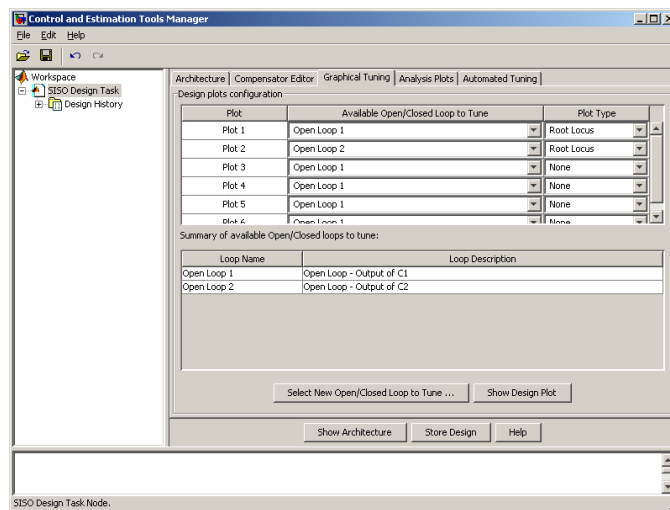

Figure 4: Design Plot Configurations
7. Choose to plot the **Root Locus** plot for both **Open Loop 1** and **Open Loop 2** as shown in Figure 4.